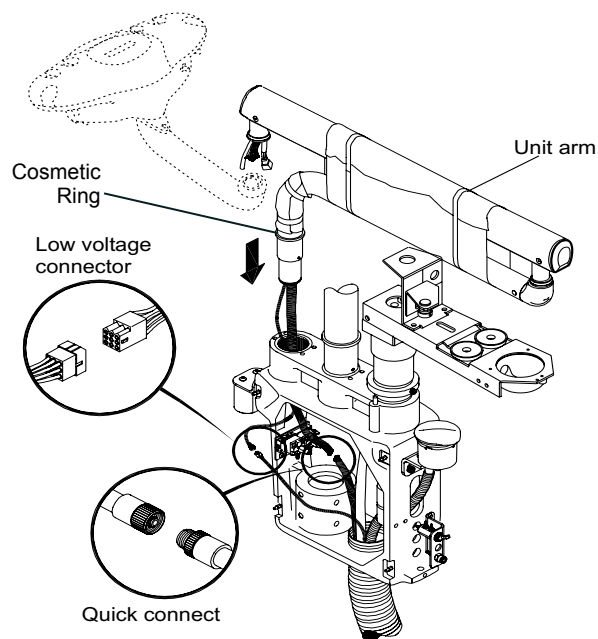

Figure 4
6. Locate the unit arm assembly. (Keep unit arm tied together with original shipping package tape). Install cosmetic ring over pole in the proper orientation before inserting pole into unit mount. Position the unit arm assembly over the utility center as shown in figure 4. Route the unit umbilical tubing into the utility center and install the pole so that it is fully seated.
8. Connect the low voltage wiring 8-pin connectors (see figure 4).